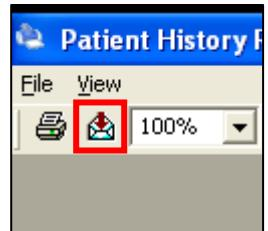

Figure 336
1. After report has been generated, select the export button from the display screen (see Figure 336).